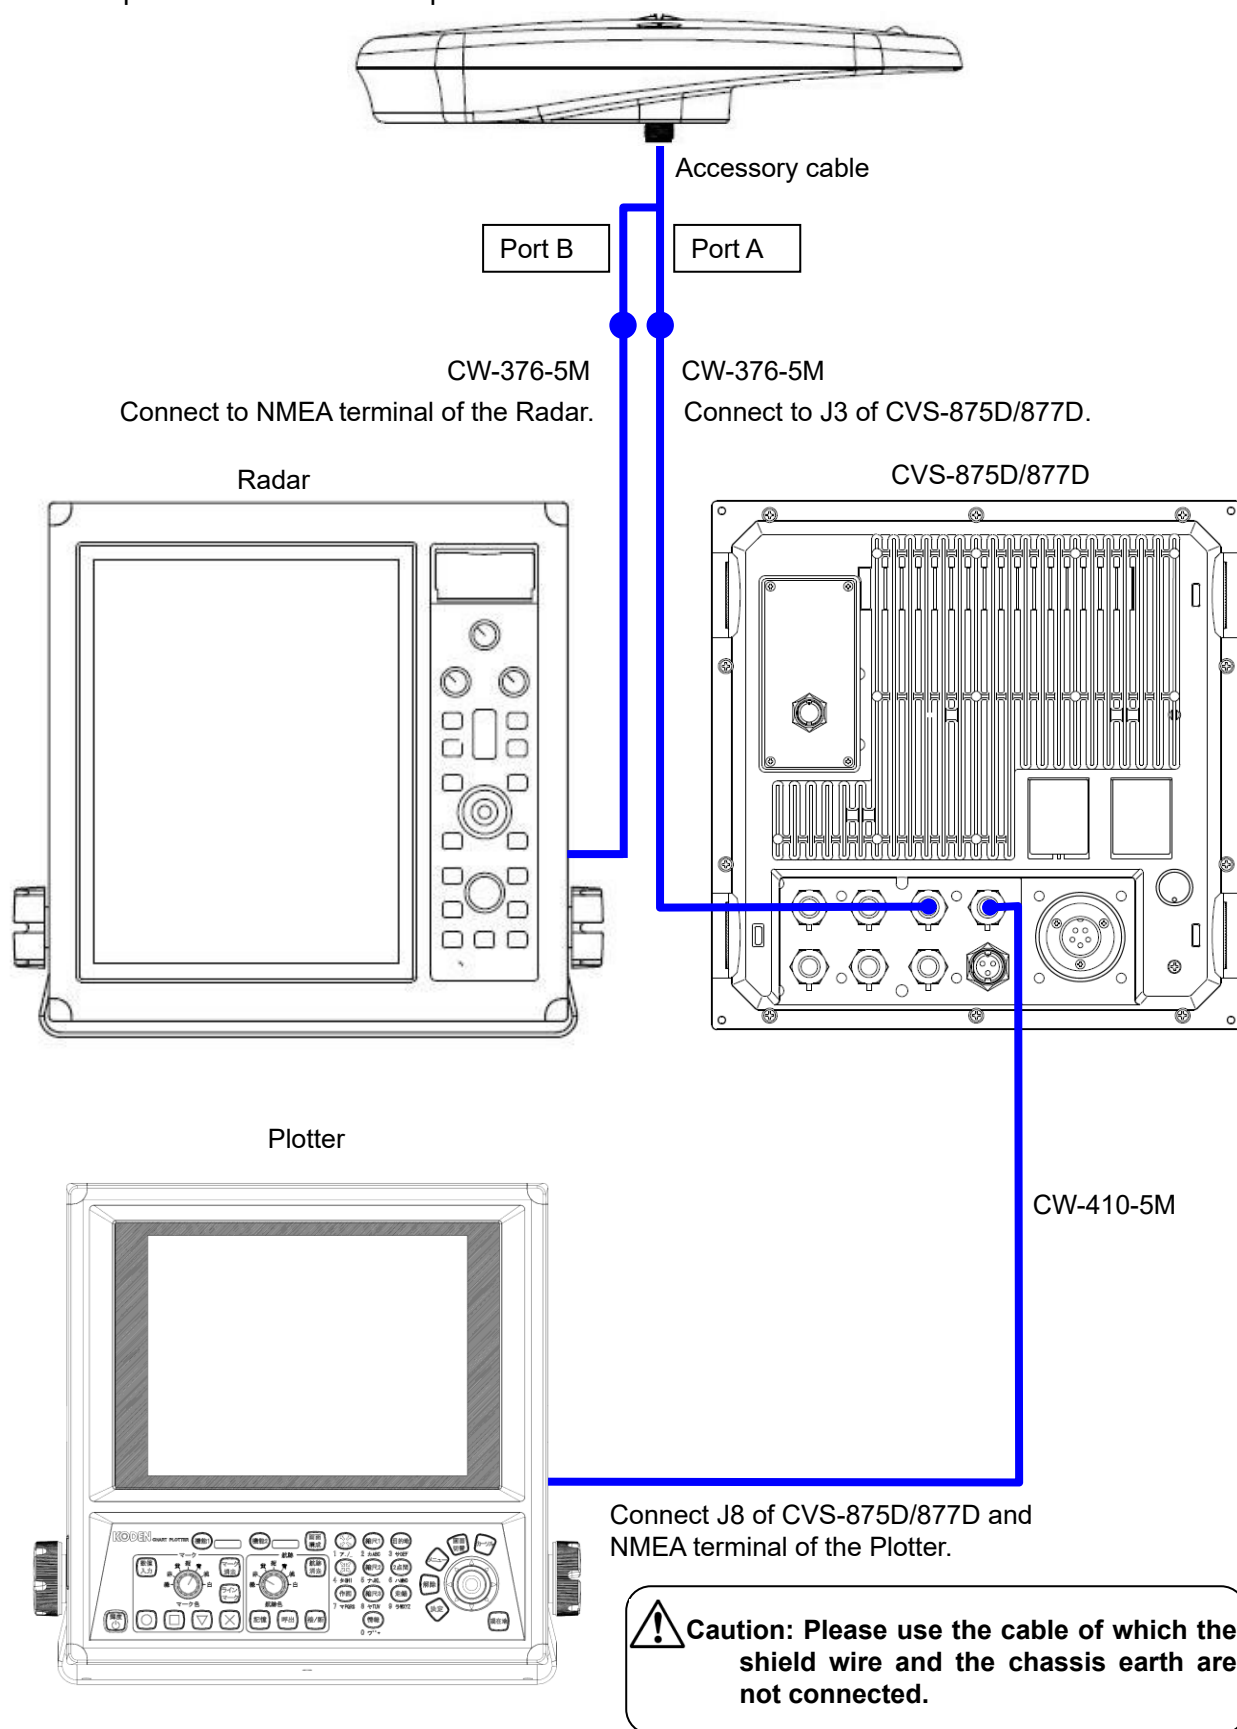
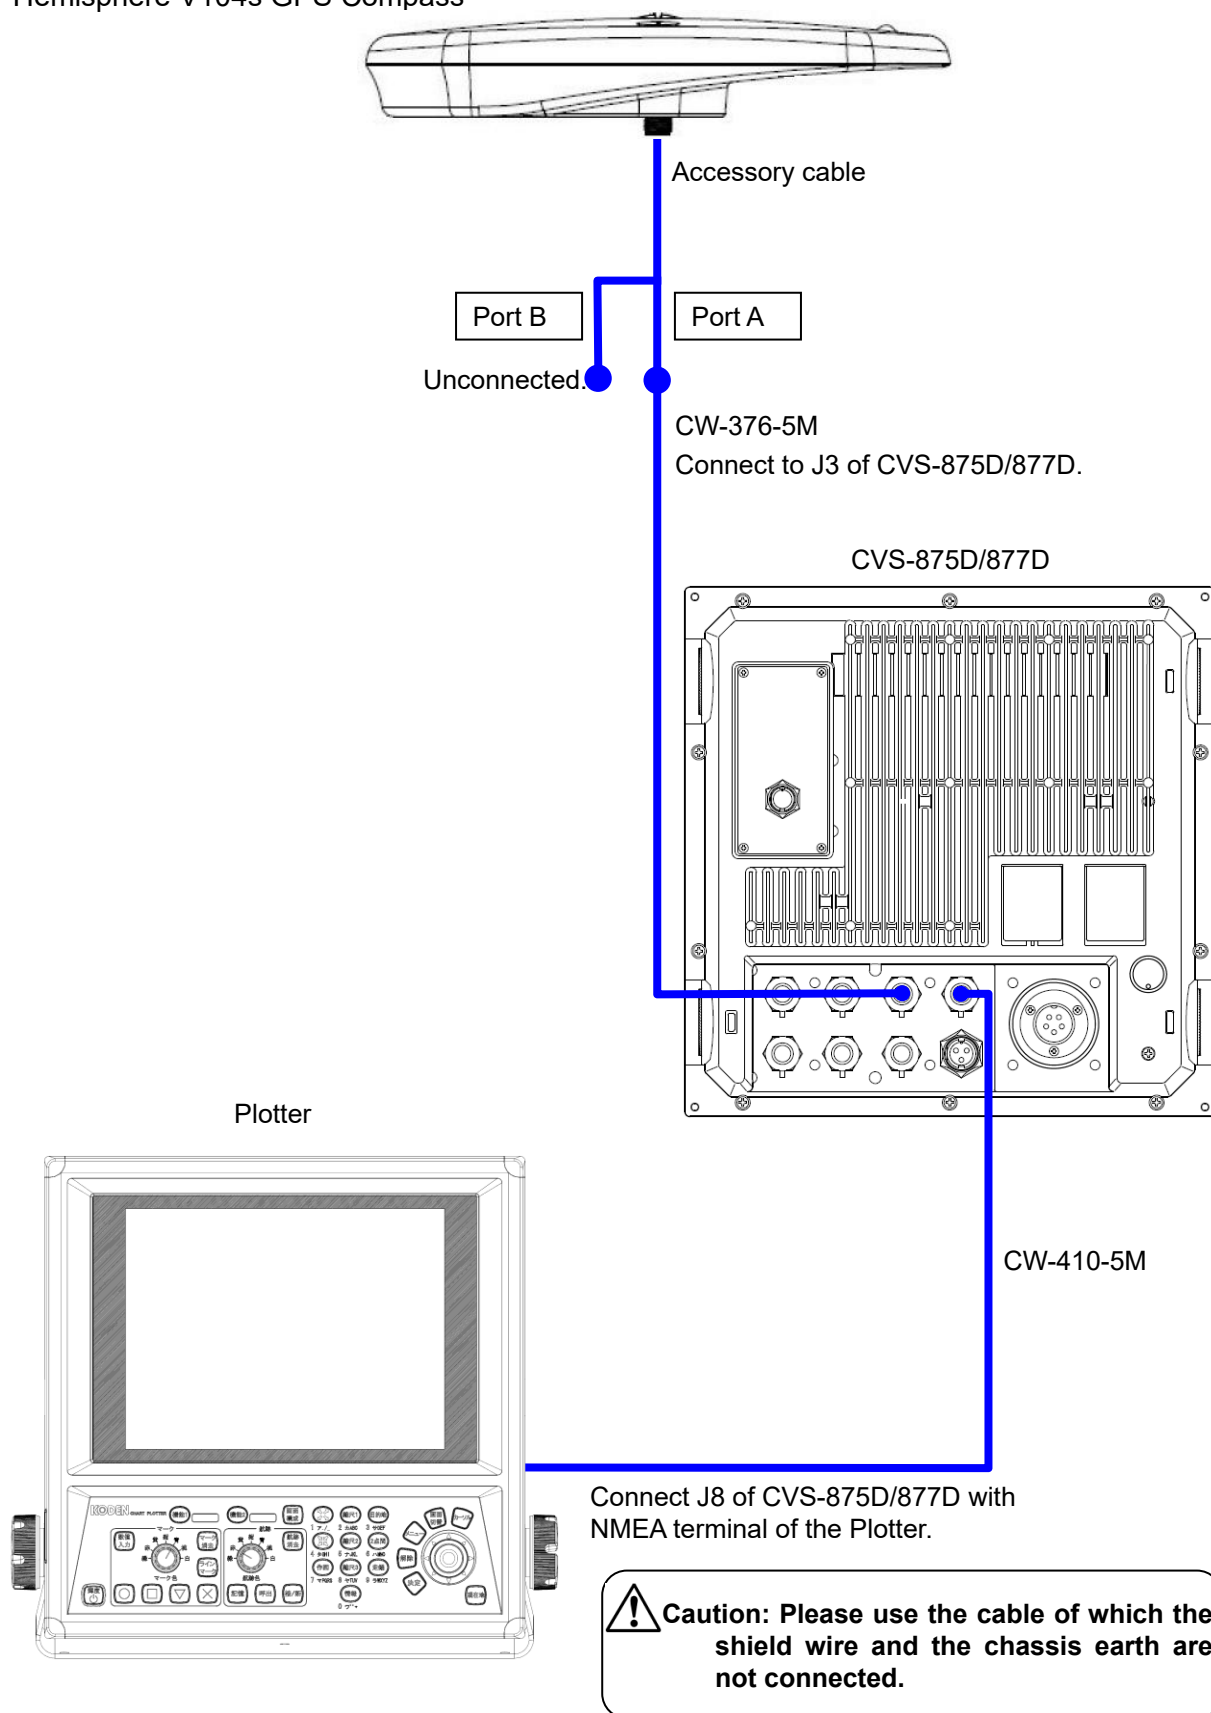

Fig. 1.68 The general connection chart 4
Fig. 1.70 The general connection chart 6
- 3) Connect CW-376-5M to NMEA terminal of Radar after soldering with Port C when connecting with Radar as GPS compass. Refer to **“Fig. 1.68 The general connection chart 4”**.
In the other cases, connection with Port C is not necessary. Refer to **“Fig. 1.70 The general connection chart 6”**.
- 4) Refer to **“Fig. 1.68 The general connection chart 4 to Fig. 1.70 The general connection chart 6”**, connect other equipment to communicate NMEA with the terminal J8 of CVS-875D/877D.